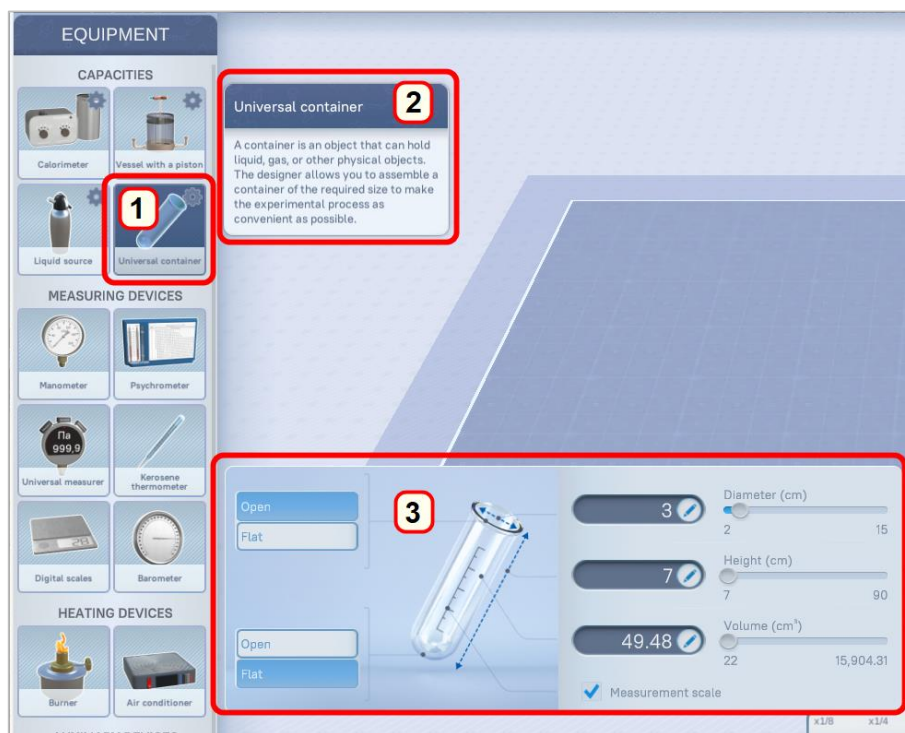

Figure 23 – Activating an object card
Clicking on the object card (1 in Figure 23) activates the card: the screen displays an info panel with the description of the selected object (2), and if the object has a constructor, the screen also displays the constructor panel (3).
- 2) If you need to customize the parameters of the object you are creating, click on its card. The screen will display the info panel and the constructor panel (Figure 23). Set the parameter values in the constructor (Figure 24).